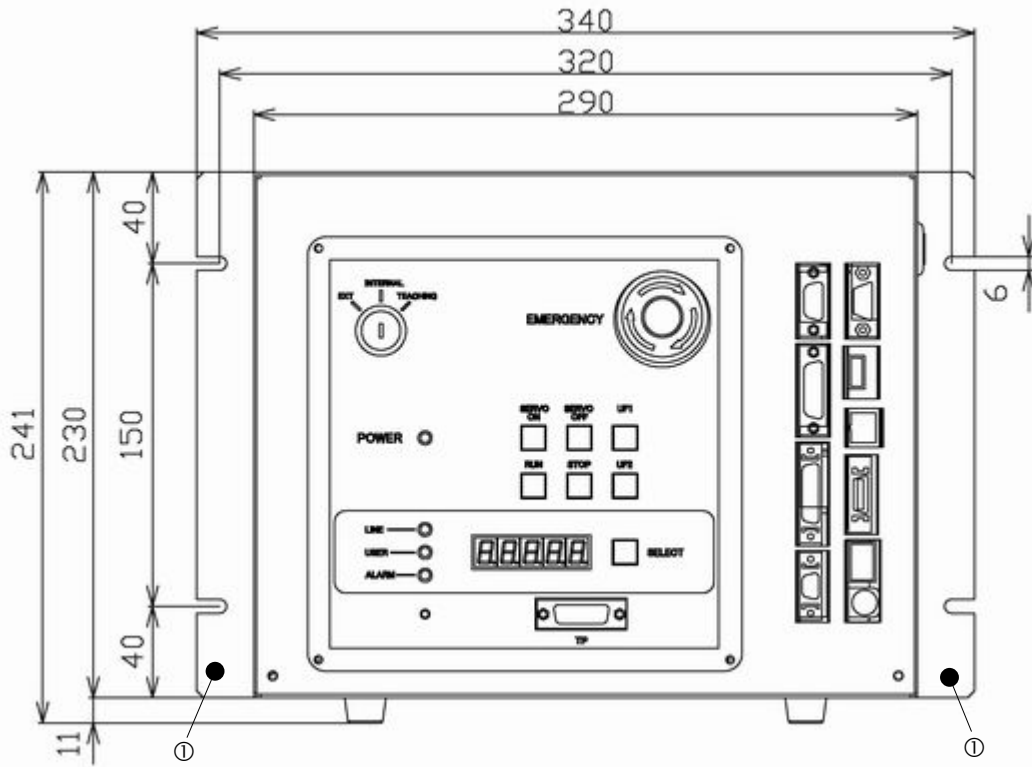

Fig. 3.7 Screw hole dimensions for securing controller
When mounting the robot controller in a rack, mount the side brackets using the screw holes provided on both ends of the front panel, and secure the controller to the rack. The side brackets ① in Fig. 3.7 are optional.